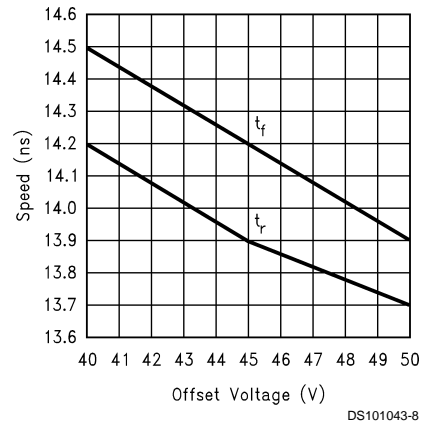

FIGURE 7. Speed vs Offset
*Figure 7* shows the variation in rise and fall times when the output offset of the device is varied from 40 to 50 VDC. The rise time shows a maximum variation relative to the center data point (45 VDC) of about 2%. The fall time shows a variation of about 2% relative to the center data point.